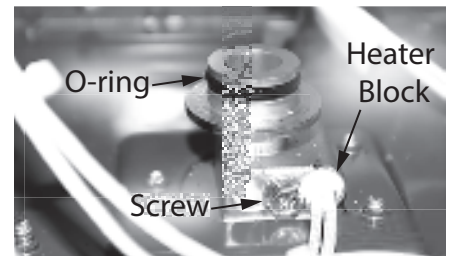

Figure 225 - Heater block location
- 21 Locate the screw securing the heater block in the base of the inlet assembly. See Figure 225. Use a Phillips screwdriver to remove the screw. Place the screw aside in a safe place for reinstallation.
26 Place the new O-ring on the new inlet assembly. See Figure 225.